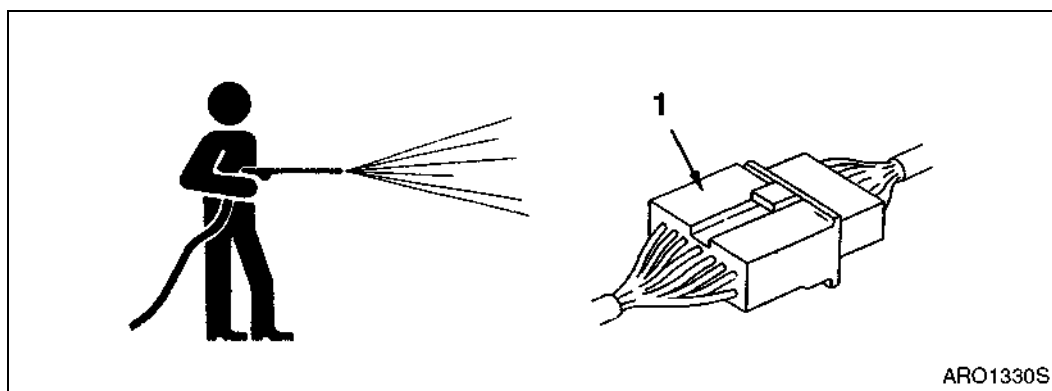

Figure 28
- Do not spray water directly on electrical components (sensors, connector) (1, Figure 28). If water gets into the electrical system, there is danger that it will cause defective operation and malfunction.